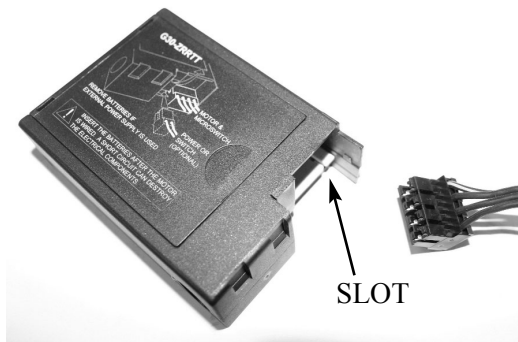

Fig. 17a
1) Carefully push the multi block connector on to the connection within the receiver unit as shown in Fig. 17a. This connector can only fit one way, so ensure the slot in the receivers board lines up with the moulding within the multi block connection.